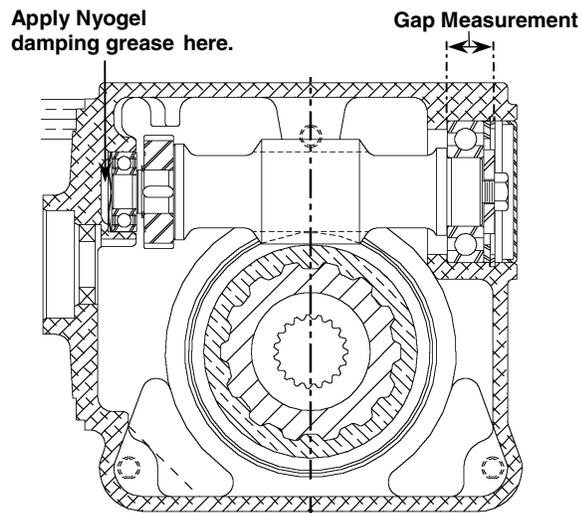

Figure 6, Worm Installation
3. Install the wave spring (8) in the housing bore at the smaller worm bearing recess. Apply a small amount of Nyogel[®] damping grease in the recess.
- a. **Measure the gap** between the shoulder of the larger worm bearing housing bore and the outside edge of the retaining ring groove (see Figure 6).
- b. Select an estimated quantity of .003-inch and .005-inch shims that when added to the thickness of the large worm bearing, spacer (item 3), and retaining ring (item 2) results in a measurement that is .001 inches to .003 inches **greater than** the gap measurement. This is necessary to ensure that the outer bearing race is clamped tightly between the shoulder of the housing bore and the retaining ring. Push the worm assembly inward to flatten the wave spring, and install the remaining components. Always install the spacer next to the retaining ring.